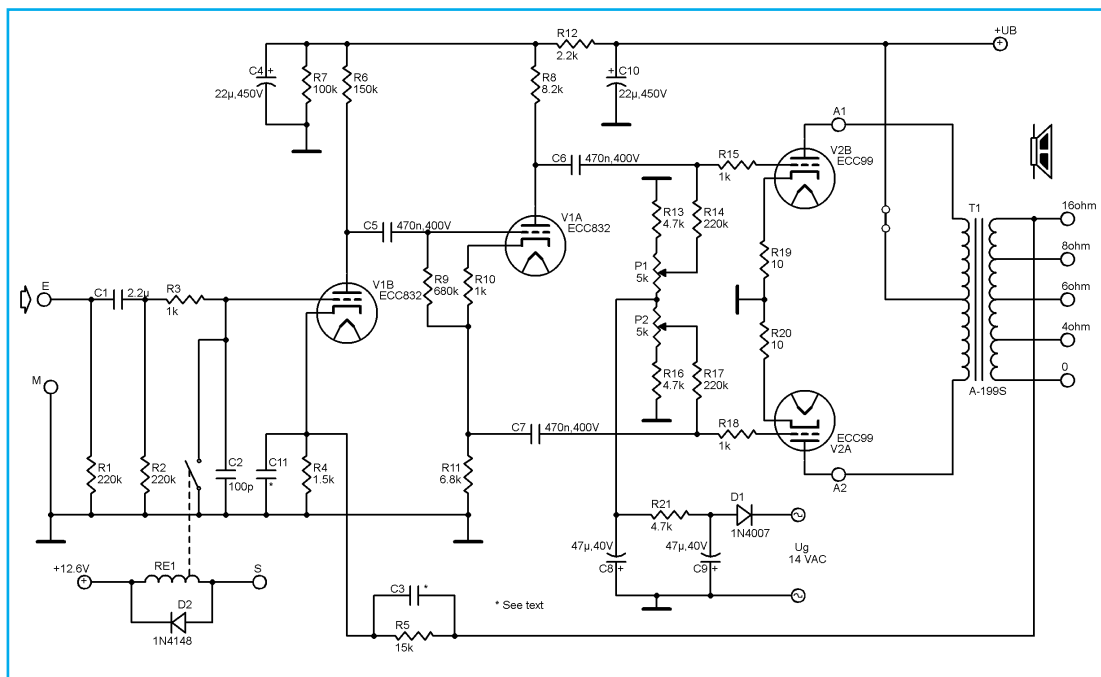

Figure 1: The push-pull triode power amplifier's design shows a typical circuit.
Figure 1 shows the circuit. It doesn't show any unusual features. In front of the grid of ECC 83, the usual resistor capacitor (RC) element is installed. Furthermore, a Reed relay is provided with which the input can be muted. ECC 83 assumes the main amplification, ECC 82 provides the phase splitter. The idle currents of both systems of the ECC 99 are set by means of potentiometers. The idle current is set so the power amplifier works in Class-A operation and the admissible anode power loss doesn't exceed 5 W. The individual idle current setting gives full control over any tube system. The voltage drop is measured at the cathode resistors R19 and R20 at the
If you take a closer look at **Figure 1**, you will notice that the cathode and anode resistance of the phase splitter show different values. This is not a typographical error, but true intention. Push-pull power amplifiers suppress the even distortion contents, preferably the second harmonic.